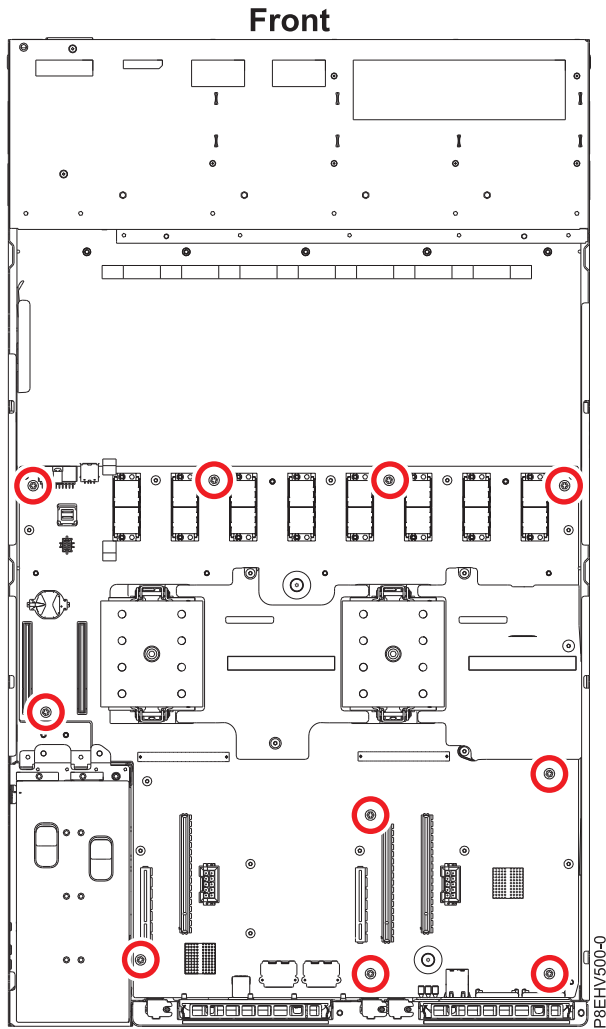

Figure 67. System backplane screw locations
4. Align and screw the 10 black hex screws (**B**) into the system backplane. The screw locations are shown in Figure 67 on page 67.